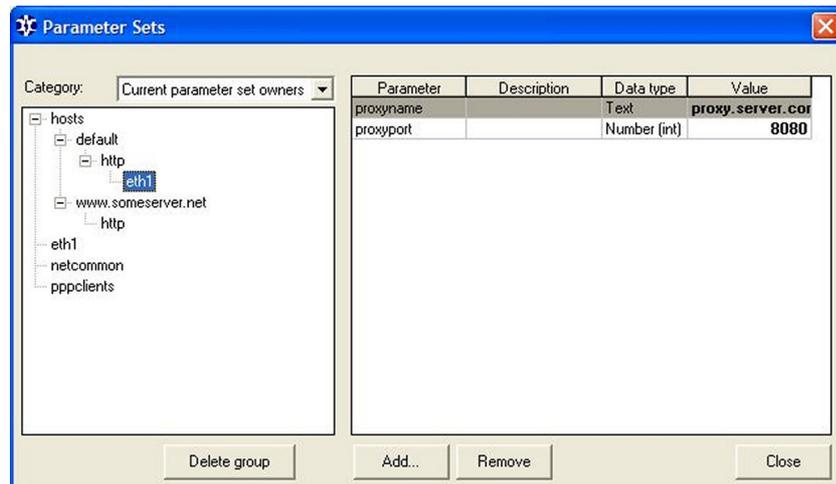

Figure 98 Configuring Default HTTP Proxy for Interface
4. If proxy configuration is required (http only), open interface(s) under the protocol. Enter proxy name/address and its TCP port. If *default* proxy configuration for interface is applicable, there is no need to define the proxy here, and it is recommended that you use the *default* settings instead; see Figure 98 on page 222.